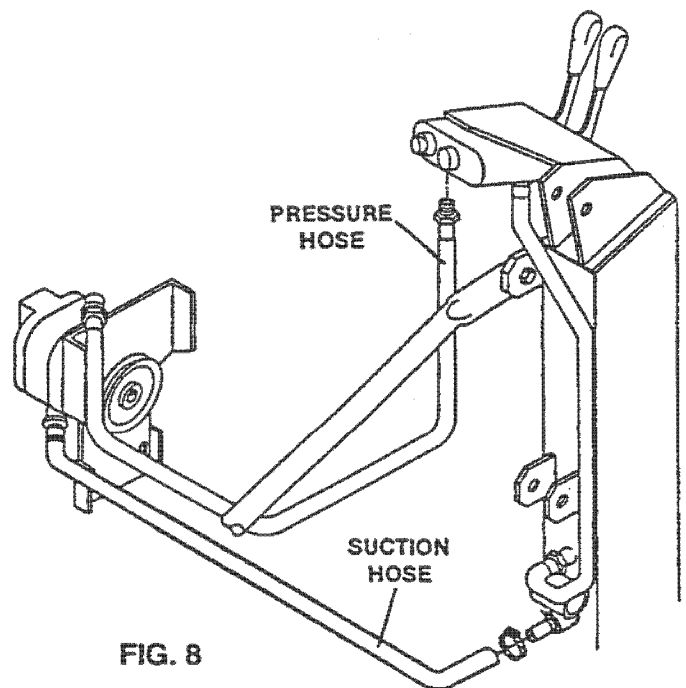

FIG. 8
- Screw the pressure hose (small hose) into the open port on the R. H. underside of the valve. Tighten securely (See Fig. 8).